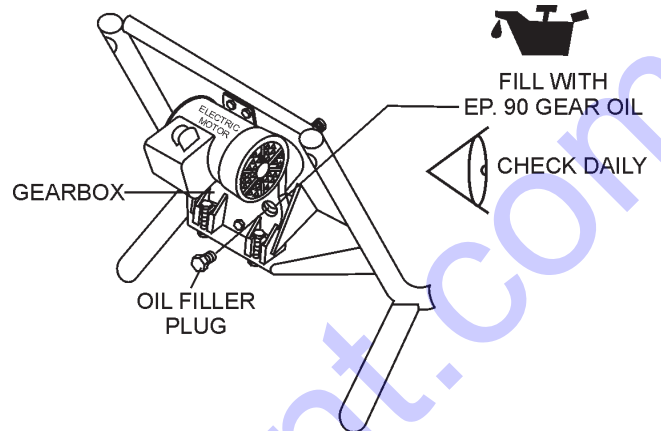

Figure 30. Gearbox Oil Level Check
4. Remove gearbox oil filler plug (Figure 30) and fill with EP90 or similar gear oil to the level of the filler plug. Replace gearbox oil every 3,000 hours. Gearbox oil capacity is **8-10 ounces**.